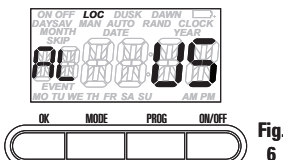

Fig. 6
- The timer will now display **LOC**, the default state and country (Alabama, United States) (Fig. 6). The location must be set in order for the Astronomic feature to function.